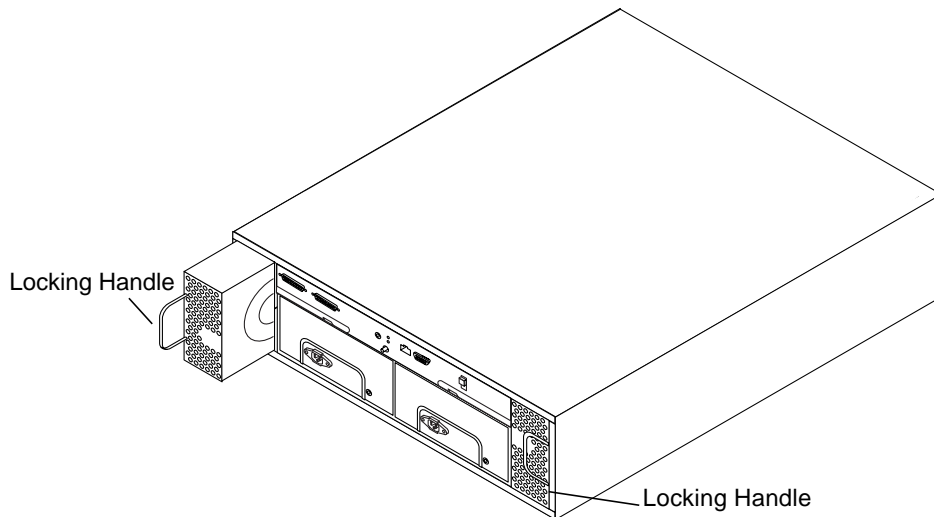

FIGURE 3-3 Removing and Replacing a Cooling Canister
1. **Release the locking handle and pull the cooling canister out (FIGURE 3-2 and FIGURE 3-3).**
You cannot remove the power supply without first disconnecting the power cord. See FIGURE 3-2. and FIGURE 3-3 for the positions of the power connector and locking handle.